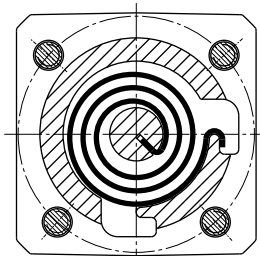

Fig. 1 Fitting position of closing spring with "tending side right".
- Spring housing (733) contains two support grooves that take up the closing springs. The grooves are needed to take up the springs and provide for the different versions of the device with the "tending side left" or "tending side right".
- Installation: First insert the closing springs into spring housing (733). Make sure you position the springs exactly as shown in figs. 1 and 2.
- The closing springs are properly tensioned when all four fastening screws (732) can be installed inside the housing (about half turn of spring housing). The valve clacks must be closed during the procedure.